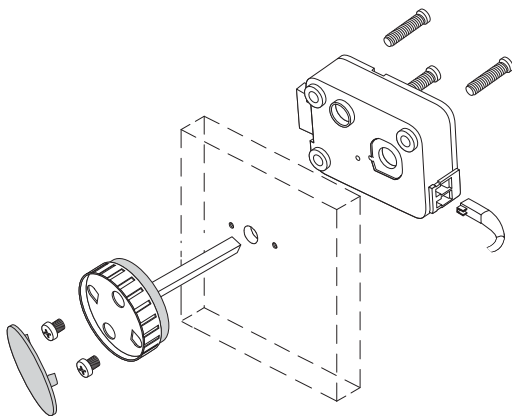

Figure 8
In order to use either the Dead bolt or Spring bolt locks, a method of retracting the bolt will be required. Knob Assembly - P/N 2666 - (Figure 8) is recommended.
4. Install the knob assembly using the two 8-32 X 5/16 phillips pan screws. (Figure 8)
7. Connect the cable coming from the Entry Device directly into the connector port marked ENT on the lock. (Figure 8)